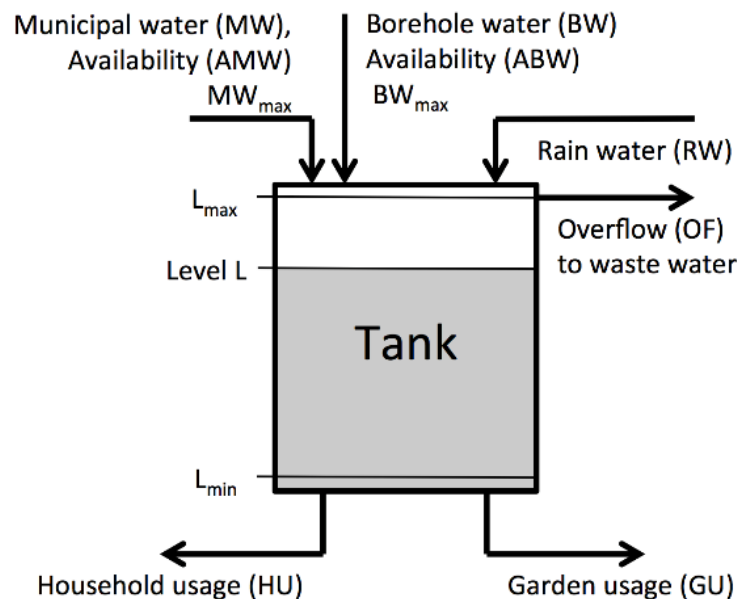

Figure 1: Domestic rainwater harvesting system
The domestic rainwater harvesting system of interest (see Figure 1) consists of a large tank with three intakes: rainwater collected from roof area (RW); municipal water addition (MW); and borehole water addition (BW). Rainwater collection depends on rainfall, while municipal or borehole water addition can be manipulated, subject to time-dependent availability (AMW: availability of municipal water; ABW: availability of borehole water) and maximum flow rates ( $MW_{\max}$  and  $BW_{\max}$ ).